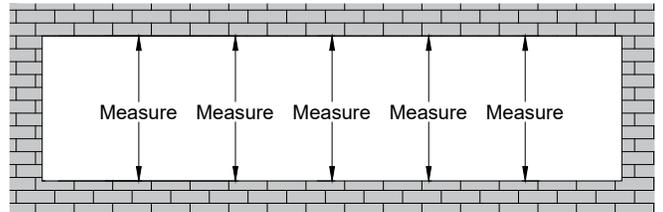

Fig 23.3
- C. Measure the height of the opening at several points along the entire width of the opening. Select the smallest of these dimensions and subtract 1 1/4" to allow a minimum of 3/4" at sill and 3/8" at head for shimming and caulking. Allow larger clearance if necessary to accommodate building tolerances or out of square openings. **SEE Fig. 23.3.**